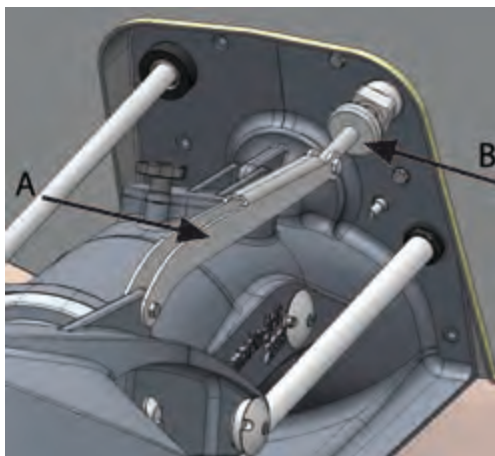

Figure 32. The intermediate bar between the hydraulic cylinder and the reversing deflector
6. After installing the reversing deflector, install the intermediate bar between the cylinder and the deflector (figure 32, point A).
Ensure that the zinc anode (figure 32, point B) does not prevent the deflector from moving all the way up.